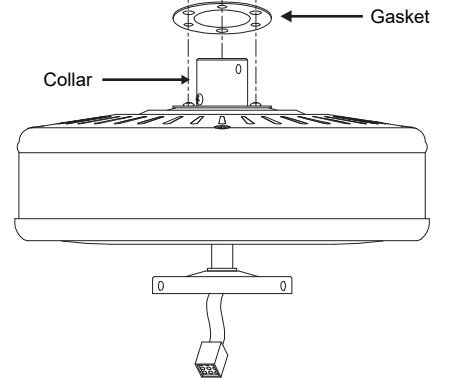

Fig. 8B
Step 4. Remove three of the six screws and lock washers (every other one) from the collar of top motor (**Fig. 8B**)
Step 5. Place the ceiling canopy and the gasket over the collar at the top of the motor. Align the mounting holes with the holes in the motor and fasten using the screws and lock washers provided (**Fig. 8B**).
Step 6. Tighten the mounting screws securely (**Fig. 8B**).